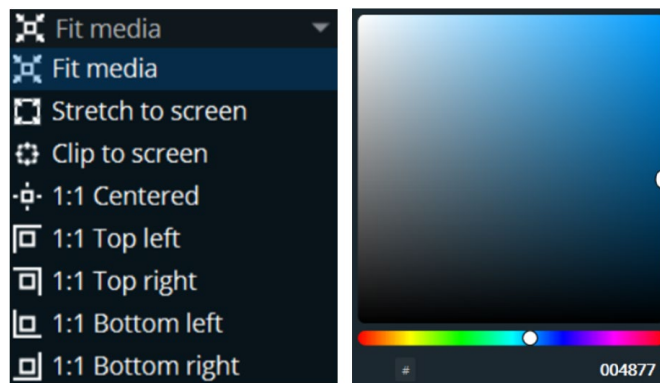

Fig. 15 - Media scaling options and setting the background color
2. Select a scaling option to apply (see Fig. 15 -).
3. Click on background color to set the background color for display areas not covered with selected media scaling (see Fig. 15 -). The default background color is black (#000000).